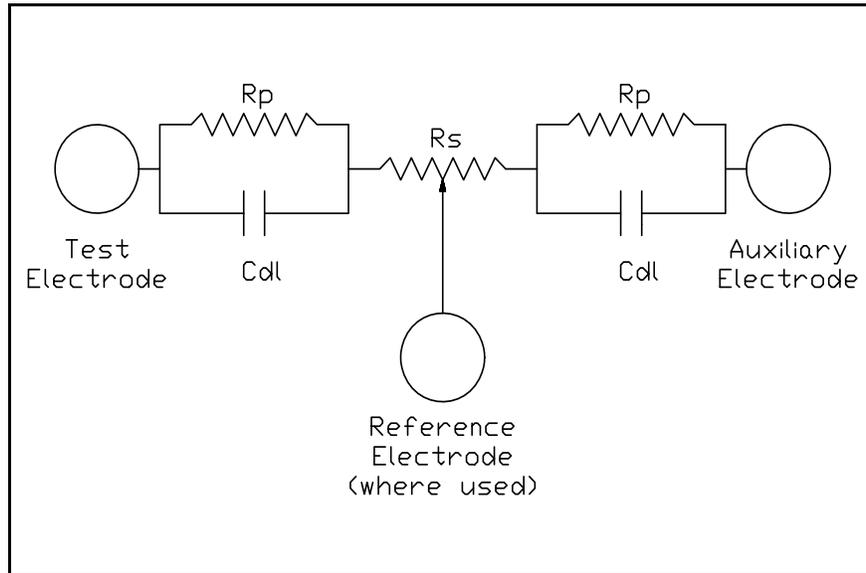

Figure A-1 Equivalent Circuit of LPR Probe
From Equations (1) and (2), obtaining results from the LPR technique would seem to require only instantaneous readings of resistance. In practice, however, the determination of polarization resistance is complicated by a capacitance effect at the metal-fluid interface (double-layer capacitance ( $C_{dl}$ )). Figure A-1 is an equivalent electrical circuit of the corrosion cell formed by the measuring electrodes and the fluid, showing the importance of  $R_s$  and double-layer capacitance effects.